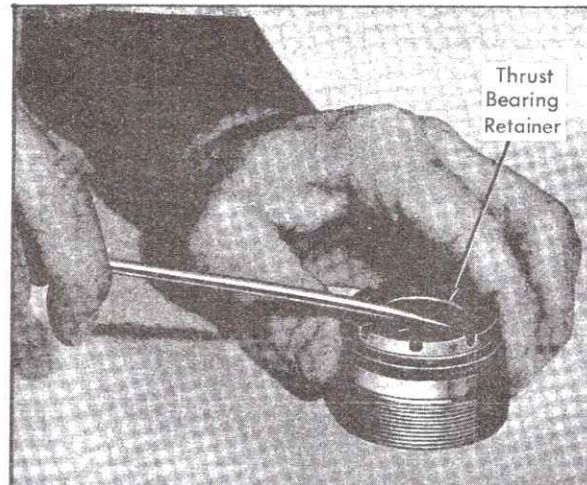

Fig. 9-28 Removing Thrust Bearing Retainer
1. Remove thrust bearing retainer with a screwdriver, Fig. 9-28, being careful not to score needle bearing bore, and discard. Remove thrust bearing spacer, thrust bearing, and thrust bearing races.